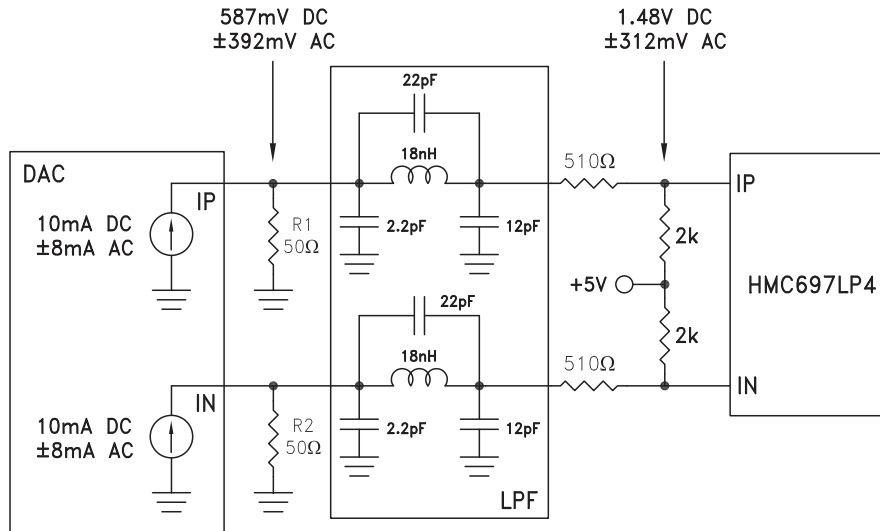
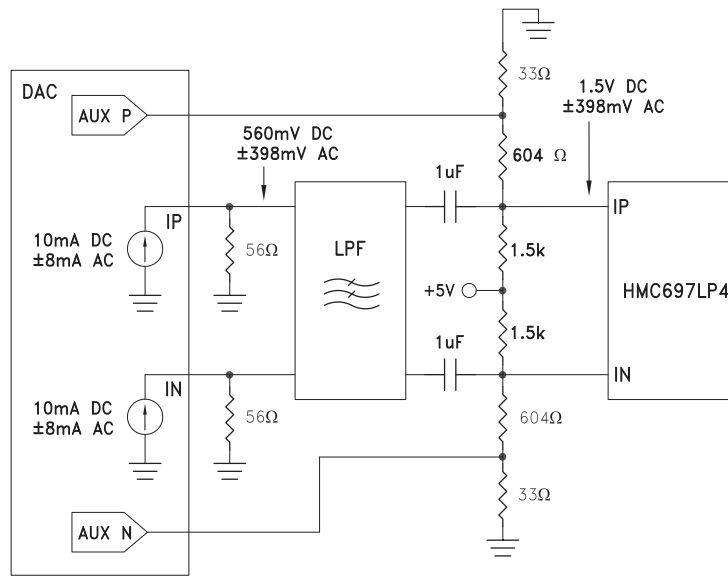

Figure 1. DC-coupled interface with $\pm 1V$ DAC output compliance range
Figure 9. AC-coupled interface with main and auxiliary DAC outputs
The DC-coupled interface between the HMC697LP4(E) and an off-the-shelf DAC with $\pm 1V$ output compliance range is presented in Figure 1. The connection is identical for I and Q ports.
The low-pass DAC reconstruction filter should be designed specific to the application to eliminate DAC images. The input and output impedances of the filter can be optimized by splitting the R1 and R2 resistors on either side of the filter network. In this application, a 3rd order elliptic low-pass filter with 330 MHz 3 dB corner frequency is implemented as shown in Figure 1.
As an example, the HMC697LP4(E) is interfaced with an off-the-shelf DAC using the topology presented in Figure 1. The DAC is set for 10 mA DC current. The AC current swing is set to ± 8 mA with 1.94 dB back-off from the full-scale current of ± 10 mA. The circuit in Figure 1 results in 587 mV DC, ± 392 mV AC voltage at the DAC output, and 1.48V DC, ± 312 mV single-ended AC (1.25V differential peak-to-peak) voltage at the modulator inputs. The resistive interface network attenuates the baseband AC voltage by ~ 2 dB.
As an example, HMC697LP4(E) is AC-coupled with an off-the-shelf DAC using the circuit in Figure 9. In order to calibrate sideband suppression, amplitude and phase adjustments are performed from the main DAC outputs. The carrier feedthrough is calibrated by the auxiliary (AUX) outputs, which provide small amount of current to tune differential DC offset levels of the I/Q inputs. The low-pass filter block in Figure 9 is the 3rd order elliptic filter shown in Figure 1.